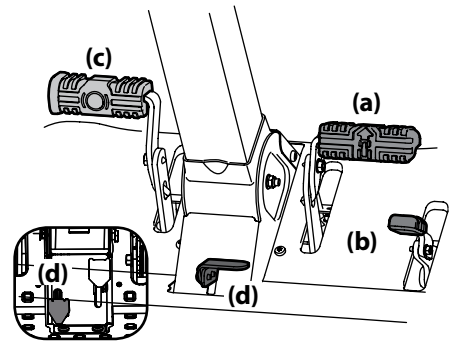

Figure 3-3
2. To travel FORWARD, slowly press the forward drive pedal (a) forward until the desired speed is achieved. See Figure 3-3.
6. To travel in reverse, check that the area behind is clear then slowly push forward on the reverse drive pedal with the ball of your foot (NOT your heel) until the desired speed is achieved. See Figure 3-3.